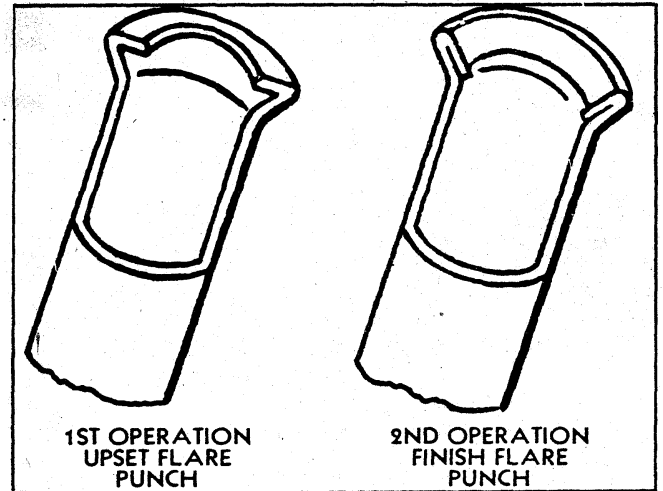

Fig. 15—Flaring Operation—First and Second Flare
7. To complete the flare, insert the pointed finish flare punch and the ram into the tool body. Tap the ram until a good seat is formed (fig. 15).